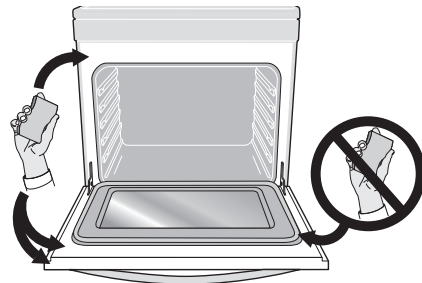

Figure 33: Areas to clean and to avoid
- Clean any soil from the oven frame, the door liner outside the oven door gasket, and the small area at the front center of the oven bottom (Figure 33). These areas heat sufficiently to burn soil on. Clean using soap and water prior to starting Self Clean.